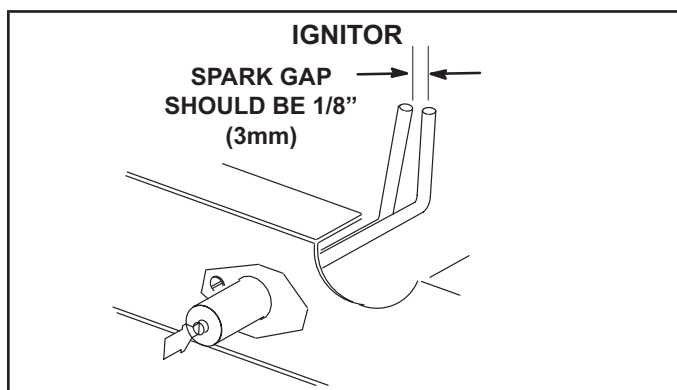

FIGURE 31
- 4 - Locate the ignitor under the left burners. Check ignitor spark gap with appropriately sized twist drills or feeler gauges. See FIGURE 31.